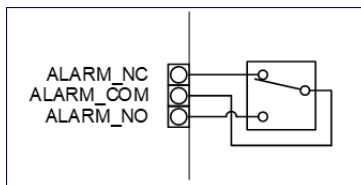

Figure 3: Alarm Relay Output Detail
- Alarm Relay Outputs — Table 1, "Alarm Relay Outputs \(J1\)," on page 68 and Figure 3: Alarm Relay Output Detail on page 69.
Refer to the following pin-out information (Table 1) and relay output details (Figure 3) when installing alarm output wiring.